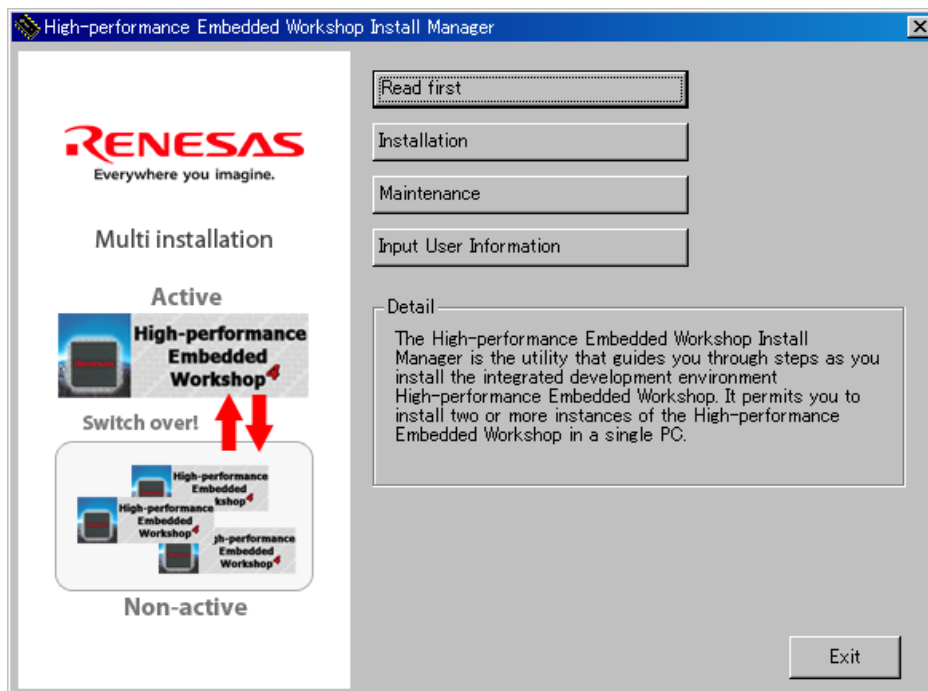

Figure 3.2.7 E10A-USB Software Installation Procedure (7)
(7) When entire installation is finished, the dialog shown in Figure 3.2.7 is displayed, click "Exit".